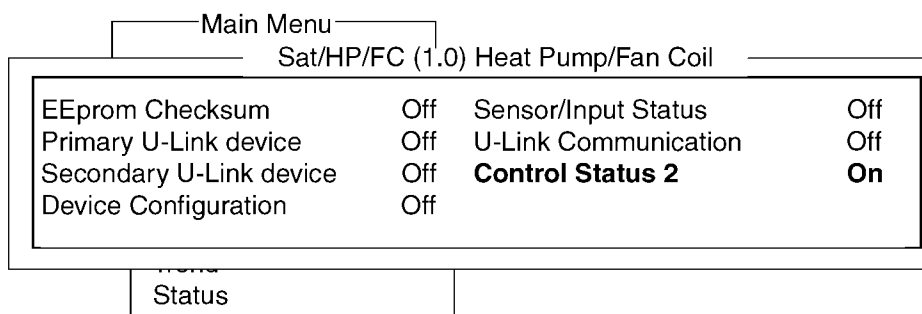

Figure-5.3 Control Status Indication in Device Diagnostic Window.
For the control status information, the “On” and “Off” indicate the current operating mode. “On” conditions are highlighted. In the example below Figure-5.3, the diagnostic window indicates that the controller is operating normally (no errors) in the cooling mode (2). Refer to Table-2.2 for control status display, diagnostic, and indication information.